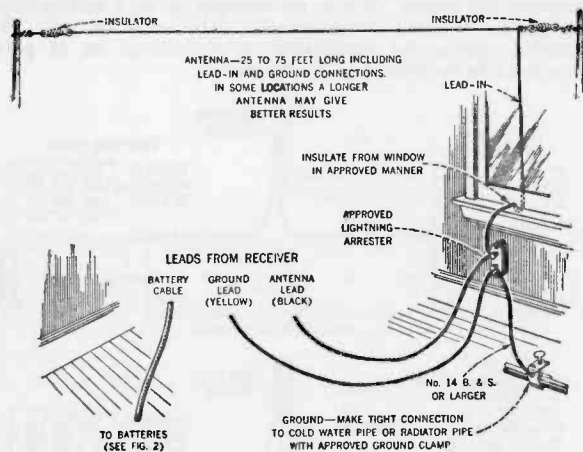

Figure 1
**Antenna and Ground**—The recommended antenna system is shown in Figure 1. It is important that a good ground connection be provided. Make connections to the antenna and ground as illustrated.
- (1) One 2-volt storage cell; or
- (2) Six 1½-volt dry cells—Burgess No. 6, Eveready No. 7111, or equivalent.